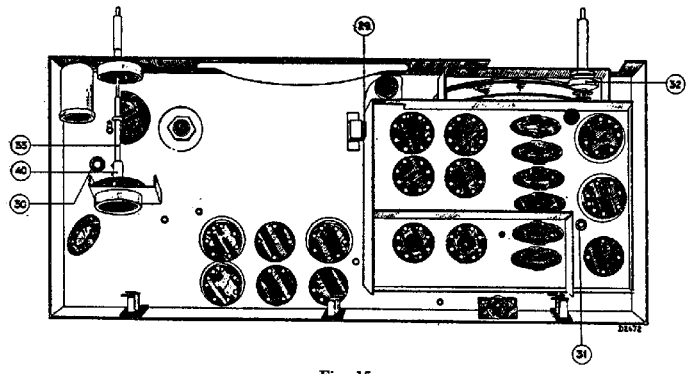

Fig. 15
3. Loosen the set-screws of the coupling-socket (fig. 15 pos. 40).